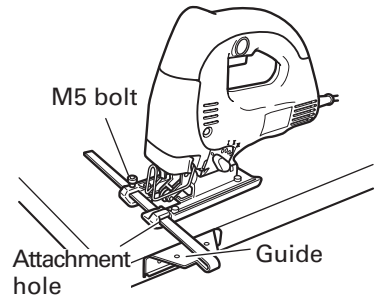

Fig. 13
- (3) Attach the guide by passing it through the attachment hole on the base and tighten the M5 bolt. (Fig. 13)
- (4) Set the orbital position to "0".